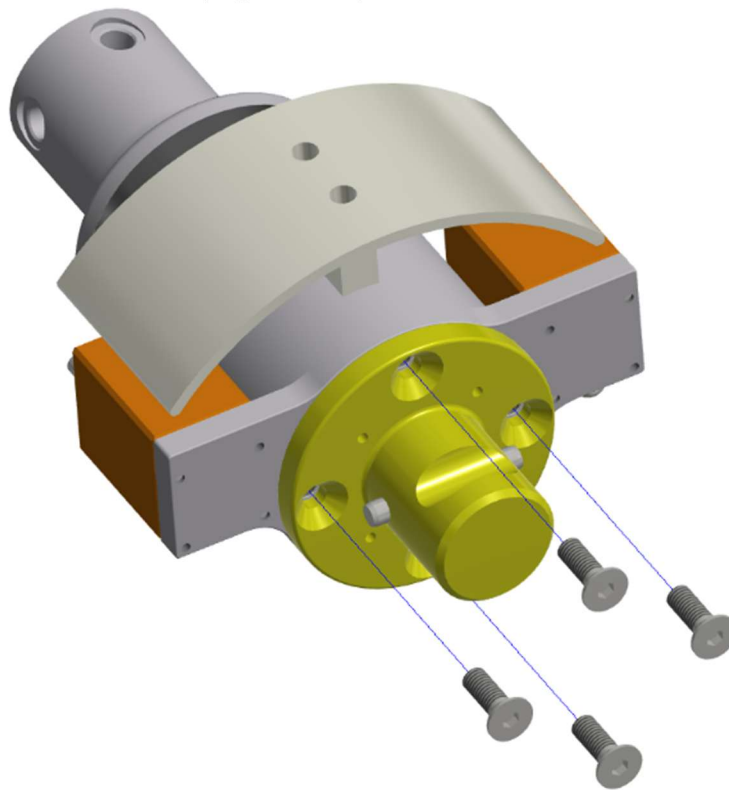

Figure 9-27. Remove the Femur Attachment Plate (474-5161) by removing four M6 X 1 X 18 LG. FHCS
9.2.19 Remove the Femur Attachment Plate (474-5161) by removing four M6 X 1 X 18 LG. FHCS (Figure 9-27).